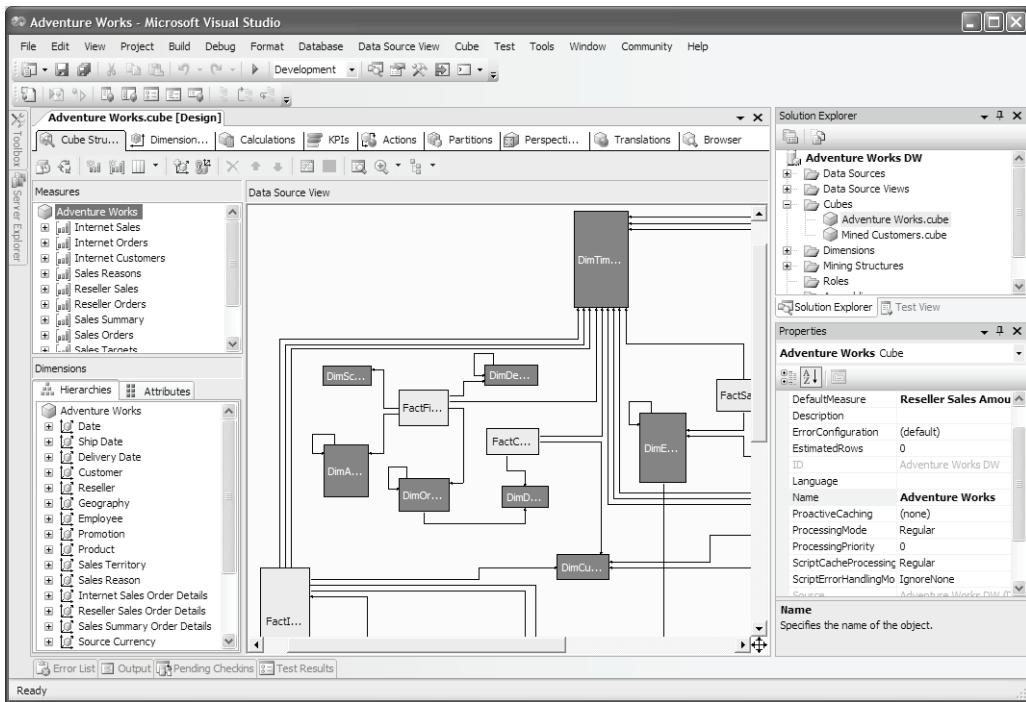

Figure 1.21 Use the Business Intelligence Studio to design SSAS objects.
3. If the Solution Explorer window is not shown, click on the Solution Explorer (View menu) or press Ctrl-Alt-L. The Solution Explorer shows the SSAS objects defined in the Adventure Works DW project in a tree view, as shown in Figure 1.21.